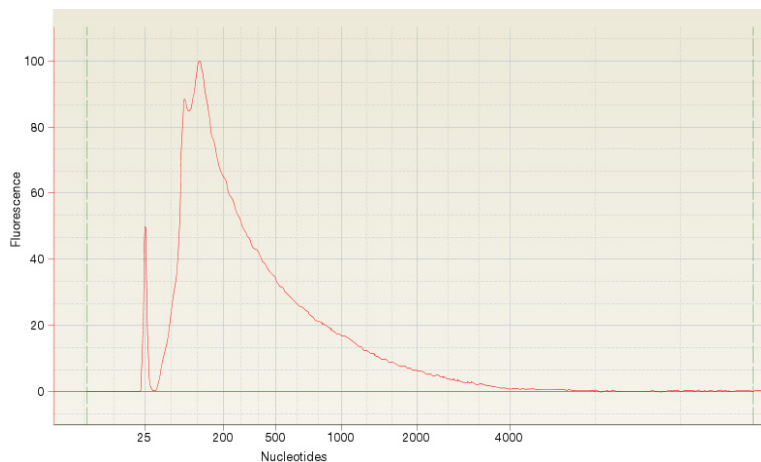
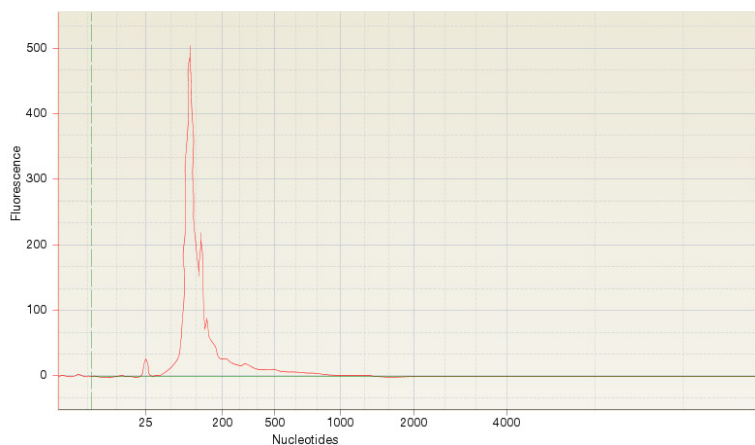

Figure 1 Size distribution of fragmented HeLa poly(A) RNA
Figure 2 Size distribution of fragmented rRNA-depleted HeLa RNA
The fragmentation procedure should produce a distribution of RNA fragment sizes from 35 nt to several hundred or a few thousand nt, depending on your sample type. The average size should be 100–200 nt. See Figures 1 and 2 on page 8.
Figure 1 and Figure 2 show profiles from an Agilent 2100 Bioanalyzer after RNase III fragmentation and cleanup. Figure 1 shows results with HeLa poly(A) RNA. Figure 2 shows results with rRNA-depleted HeLa RNA.